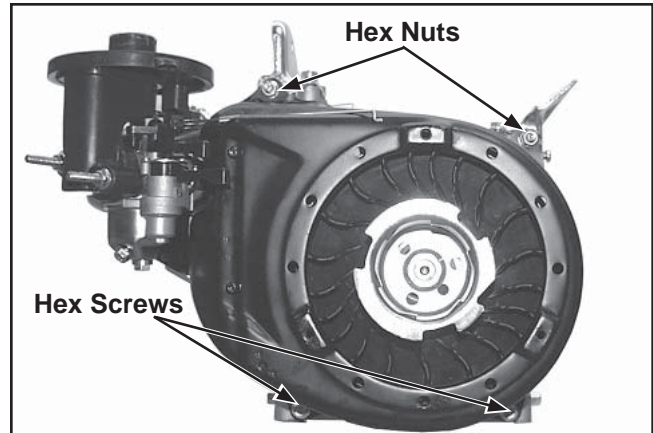

Figure 11-71. Installing Blower Housing.
2. Install the blower housing on the crankcase with two hex flange nuts and two hex flange screws. Torque nuts to $8 \text{ N}\cdot\text{m}$ (71 in. lb.) and screws to $10 \text{ N}\cdot\text{m}$ (89 in. lb.). See Figure 11-71.